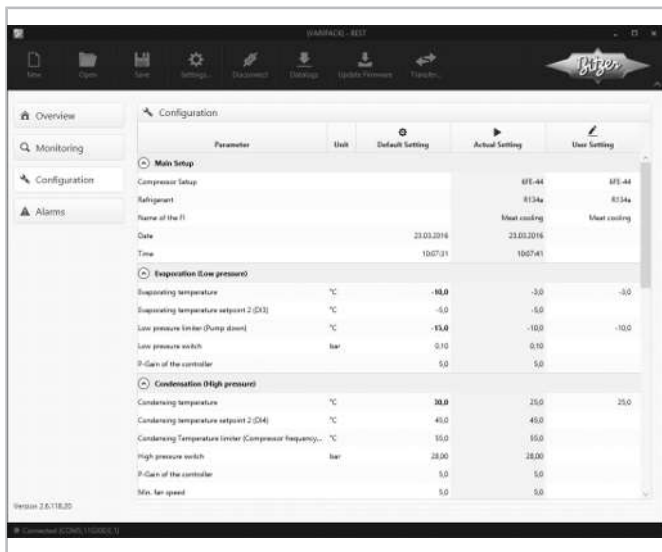

Fig. 29: VARIPACK configuration "Pressure control"
- Capacity control of the compressor as a function of the evaporation pressure using the extension module for pressure control (option), see figure 29, page 40.